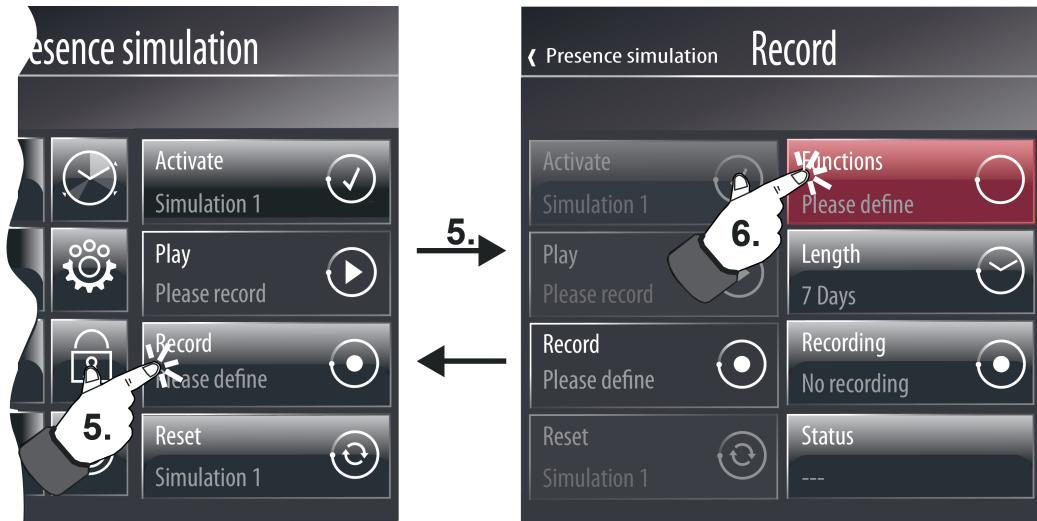

Figure 98: Example of a display page for opening the dialog for selecting functions (right)
The functions of a simulation can be selected when the control surface (C) is pressed (5.). After that, 4 additional operating and display elements appear in the display (figure 98).
- i The control surface (C) can first be operated when a simulation has been activated.